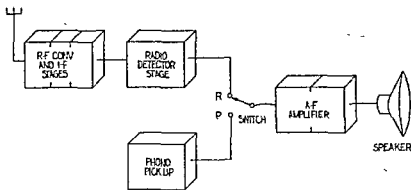

FIG. 19-4. Block diagram of a radio-phonograph combination.
Radio-phonograph combinations. Many receivers are equipped with a phonograph in a radio-phonograph combination. The receiver may also come equipped with a phonograph switch and an input jack so that the phonograph turntable and pickup unit may be added when desired. The phonograph will utilize only an audio amplifier and therefore will use only the audio stages and speaker of the receiver. At such time, it would be undesirable to have the r-f portion of the receiver in an operating condition. Therefore, a switch is used to block the radio signals from entering the audio stages. Likewise, when radio signals are being received, it is desirable that the phonograph pickup be disconnected from the audio stages. The setup is shown in the block diagram of Fig 19-4, together with a simplified switching arrangement. The switch is shown in the RADIO (R) position used for the reception of radio signals.